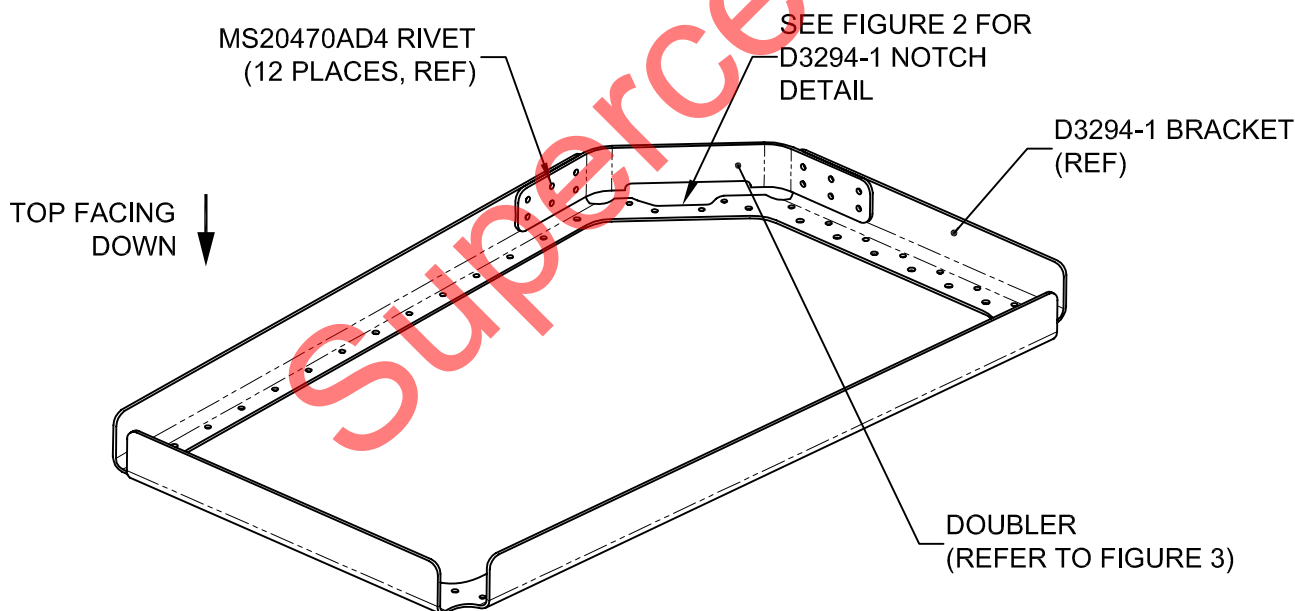

FIGURE 1: INSTALLATION OF DOUBLER
To make the Dart D350-567-111 Vertical Reference Window Installation Kit at CHG 002 and D350-567-115 Interior Floor Window Kit at CHG 001 compatible with later AS350/355 Aircraft, it may be necessary to notch and reinforce the D3294-1 Bracket per Figure 1. This change is required to ensure that the D3294-1 Bracket will not interfere with the pilot's right hand aft seatbelt anchor structure.
- 5) Install Doubler on D3294-1 Bracket using MS20470AD4 Rivets as shown in Figure 1.